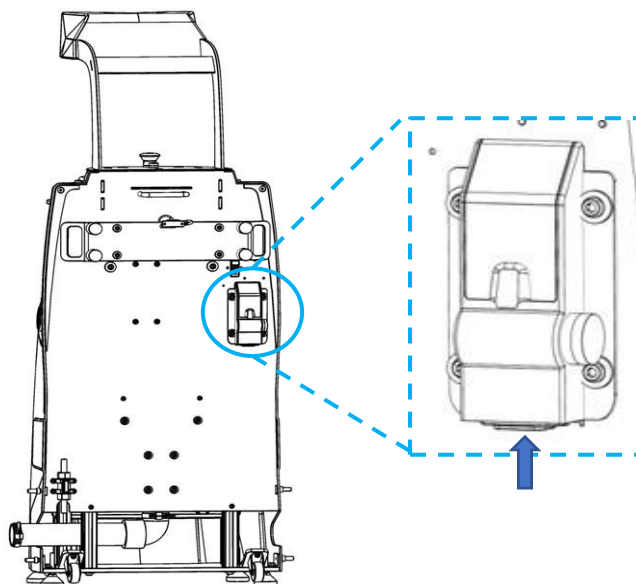

Fig. 1
1. Connect the power cable to the refuel station power port (Fig. 1).